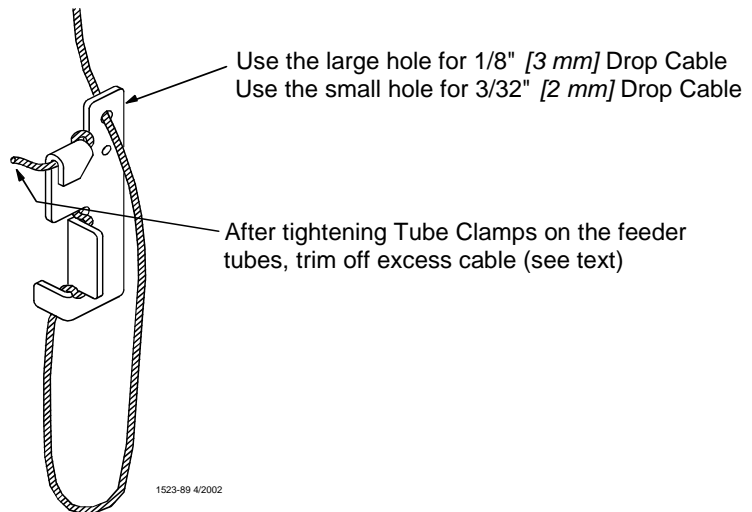

Figure 31. Assembling Feeders on the Tubes
5. Install Adjustment Leveler within 6" [152 mm] of feeder line. **Figure 31** shows the proper cable routing around the Adjustment Leveler.
11. Finally, tighten the Tube Clamps on the feeder tubes. Clamp the joints securely, but do not crush the tubes. Re-adjust all Adjustment Levelers as needed and trim off excess cable as shown in **Figure 31**.